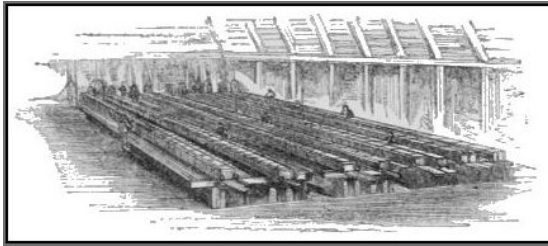

FIG. 7.
6), and then polished with a cloth rubber charged with a fine red oxide of iron called “crocus” (fig. 7). The grinding and polishing are both performed by steam machinery.